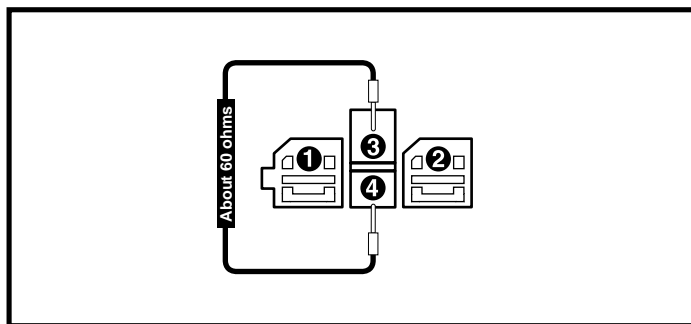
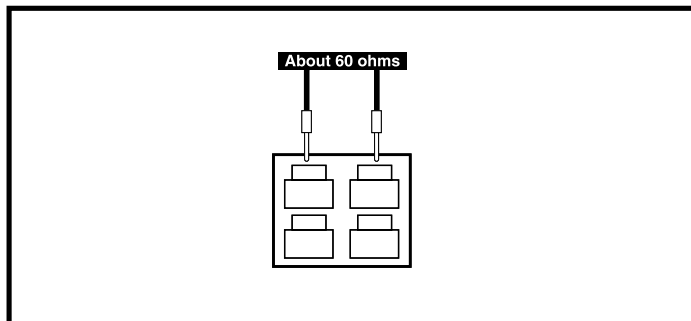

Figure 28. Connector 5b
Figure 29. Connector 12a
4. Unplug connector 5b from the power module (6). See diagram 3.
5. Measure resistance across pin 3 and pin 4 of connector 5b. See figure 28.
- *If your multimeter indicates about 60 ohms*, then replace the power module (6) and retest the system.
7. Measure resistance across pin 3 and pin 4 on connector 12a. See figure 29.
- *If your multimeter indicates about 60 ohms*, then replace the left motor interface harness (5) and retest the system.